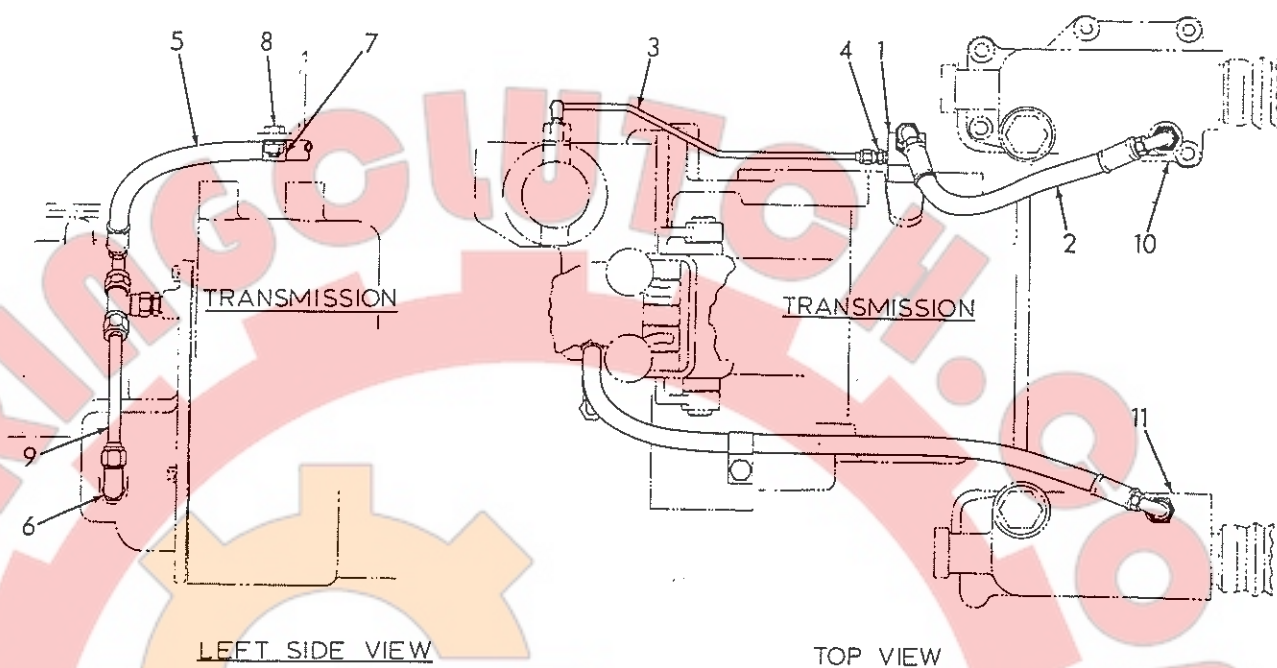

Fig. 5 Transmission Lubricating Oil Lines
Pressure lubrication to transmission components and shift lever housing is supplied by steering clutch and brake hydraulic system through oil lines from brake valves (Fig. 5). Oil entering tee (1) is directed to shift lever housing; oil also flows through tee to spray lubricate transmission components.
7. Disconnect lubricating oil lines, Fig. 5 (2) (5) from transmission case; remove hose supporting clip (7) and lay hoses aside for clearance.